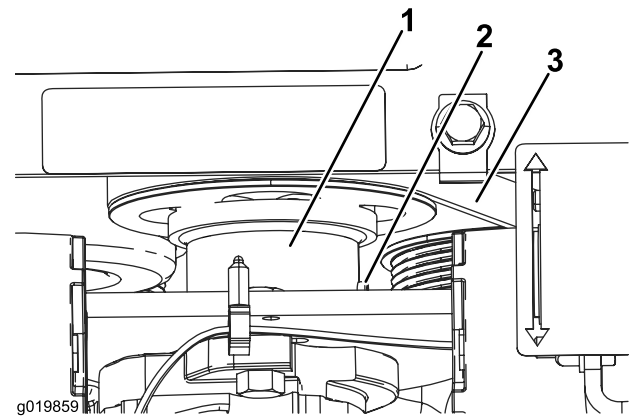

Figure 51
5. Loosen the set screw on the pump drive coupler (Figure 51).
6. Drop the coupler down away from the pulley (Figure 51).